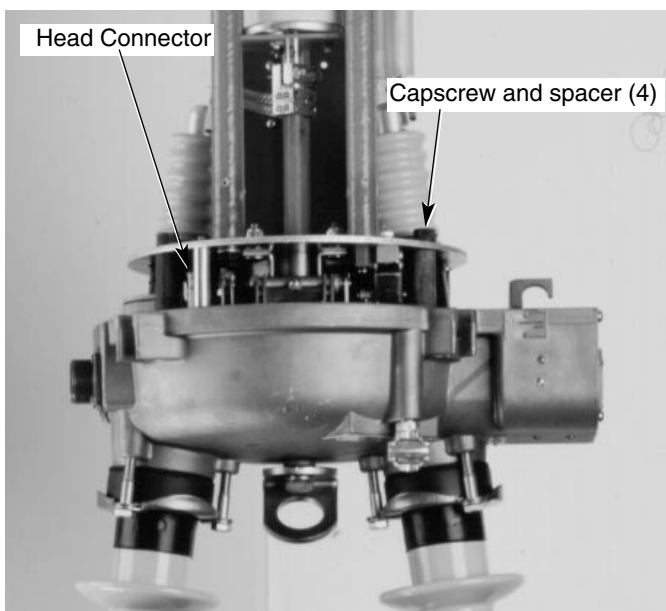

Figure 16.
13. Loosen the four hex head capscrews that secure the mechanism to the head. See Figure 16.
14. Remove the capscrew and spacer next to the head connector. See Figure 16.
15. Disconnect the head connector. See Figure 16.
2. Replace the spacers and capscrews (except the one located next to the head connector) that secure the head to the mechanism. See Figure 16.
4. Reconnect the head connector. See Figure 16.